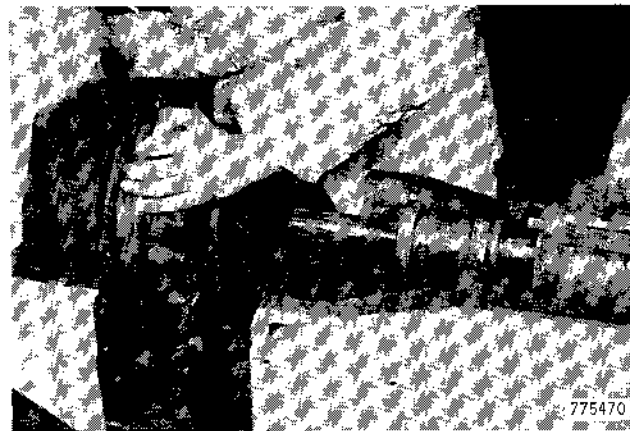

Figure 53
56. Push the front housing away from the rear housing, Figure 53. Block front housing in position.